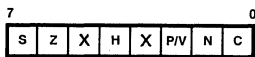

Figure 6. CPU Flag Register
**CPU Flag Register.** The Flag register contains six flags that are set or reset by various CPU operations. This register is illustrated in Figure 6.